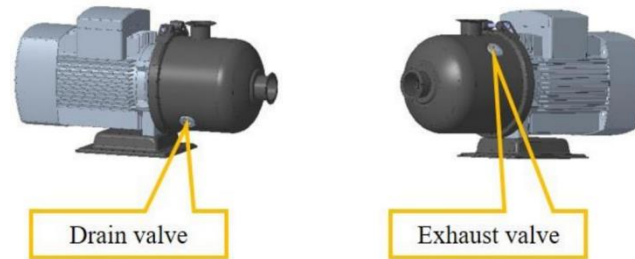

Figure 7.9 Drain and exhaust valve of the replenishment pump
c) Open the exhaust valve on the fluid replenishment pump (using an Allen wrench); once water begins to drain out, close the exhaust valve on the filling pump, as shown in Figure 7.9.